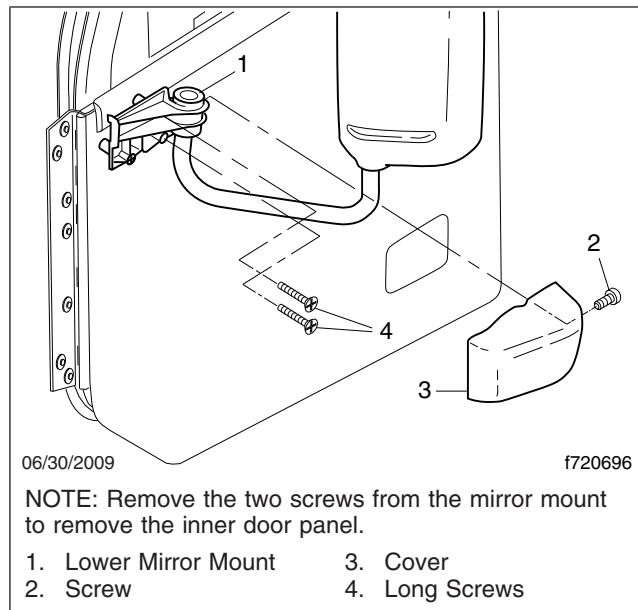

Fig. 2, Lower Mirror Cover
2. On the outside of the door, remove the screw from the lower mirror mount cover then remove the cover. See Fig. 2.
4. Remove the two long aft screws that secure the lower mirror mount and inner door panel to the door. See Fig. 2.